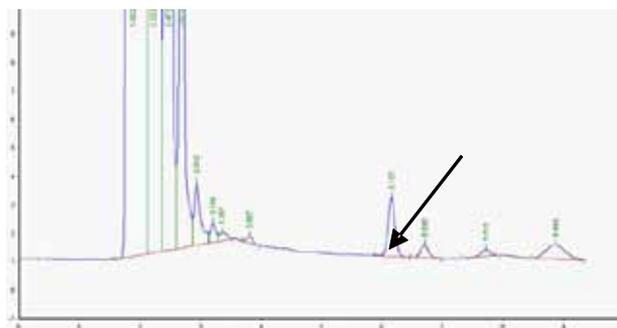

Figure 7 Chromatogram of blank fish sample
A) Figure 7 shows the chromatogram of blank fish sample.